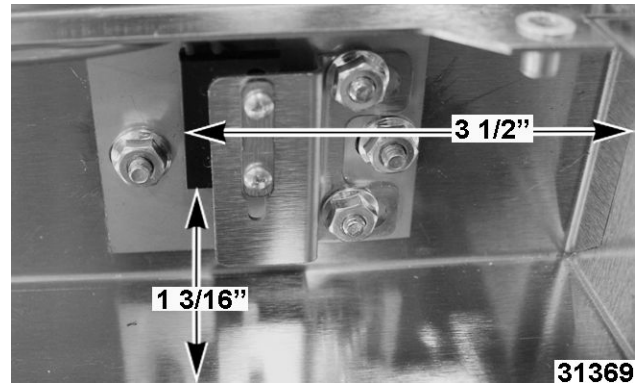

Fig. 114
- C. Loosen screws and nuts to adjust and obtain dimensions as shown in Fig. 114.